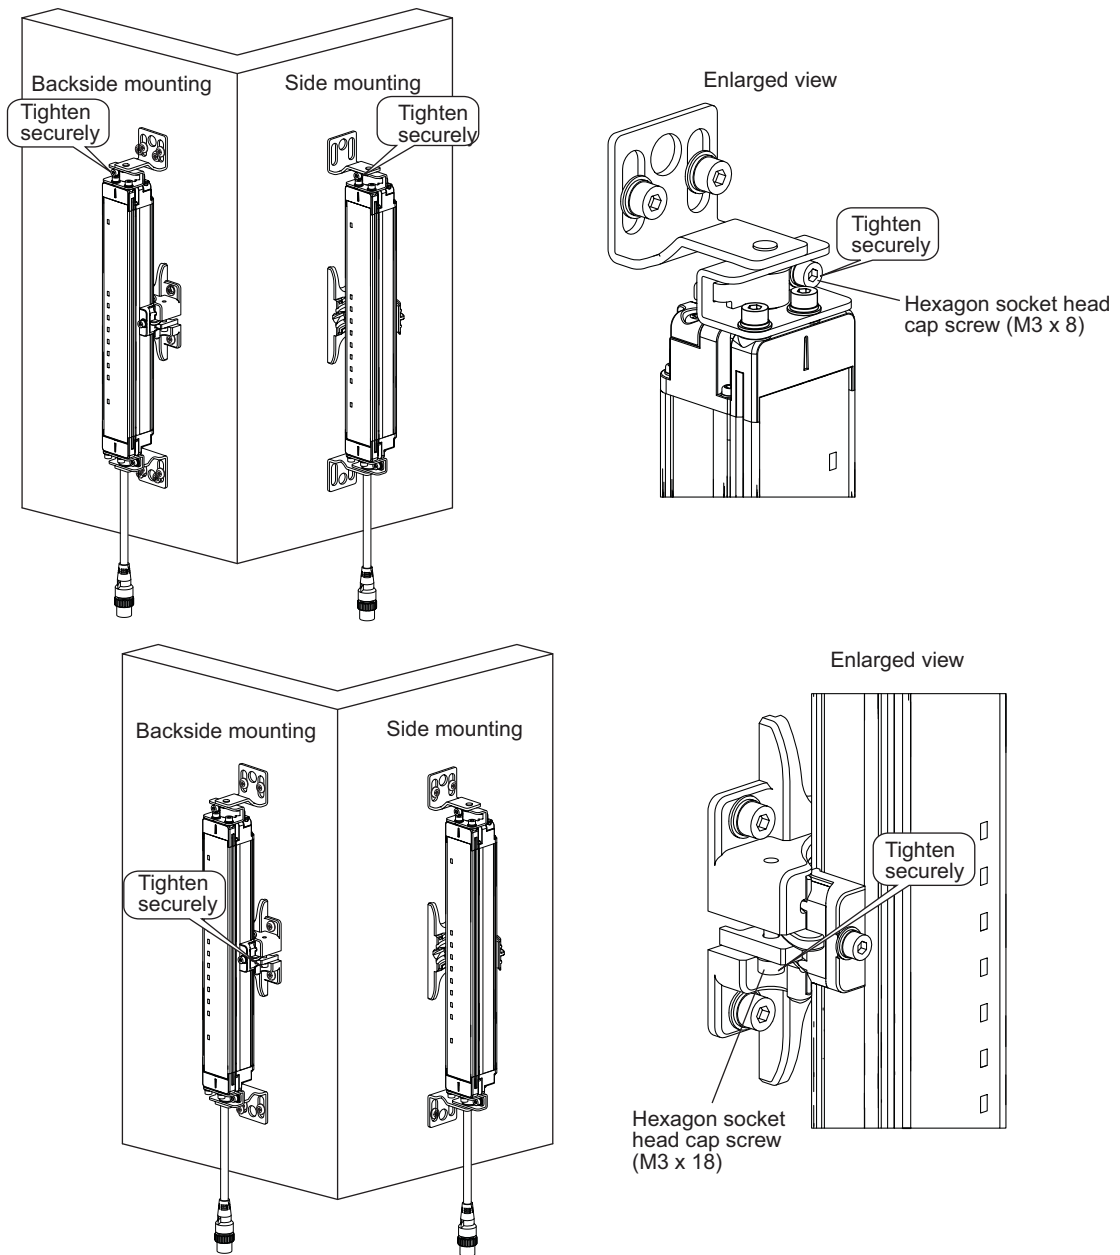

Figure 14
7. Tighten the lightly tightened hexagon socket head cap screws (M3 x 6, M3 x 18) to prevent rotation of the Top/Bottom Brackets and Intermediate Bracket. (Figure 14)